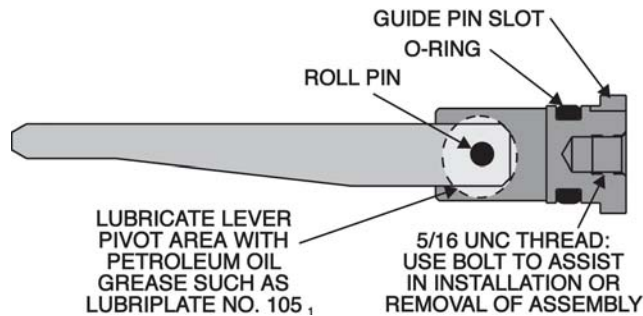

Figure 22 - The Pivot & Lever Assembly.
1. Place a lubricated O-Ring onto the Pivot & Lever Assembly as shown below. Also lubricate the area where the lever pivots on the roll pin with a petroleum grease such as Lubriplate No. 1051 (Refer to Figure 22).
2. Loosely screw a 5/16"-18 UNC bolt into the threaded area on the Pivot & Lever assembly to help push it into the Pilot Body. A guide pin assures the Pivot & Lever assembly is correctly oriented in the Pilot Body. Unscrew and remove the bolt when complete (refer to Figure 22 & 23).